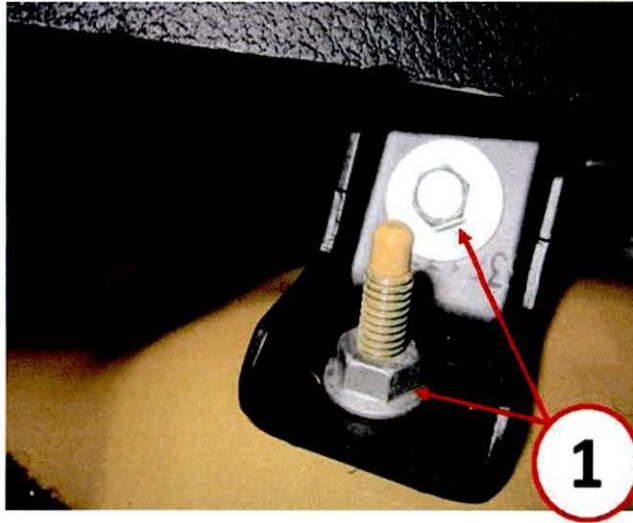

Fig. 3 Loosen Fasteners
1. Loosen both instrument panel bracket fasteners to allow for movement of the instrument panel magnesium bracket (Fig. 3).